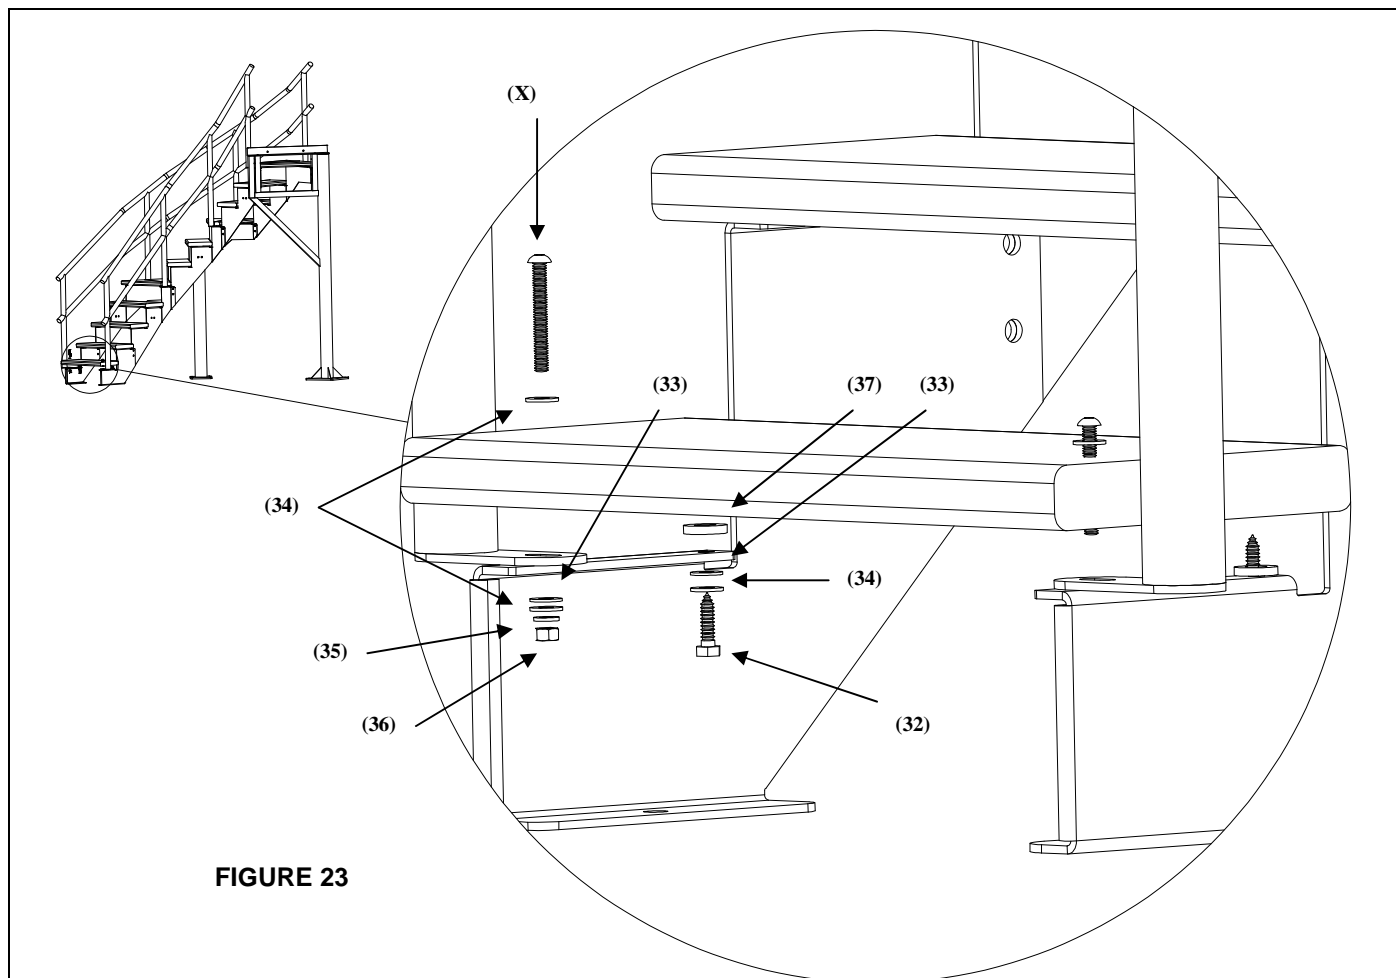

FIGURE 23
6) Install the stair treads on all steps where the handrail brackets will not be attached. The handrail brackets are installed on the following steps, starting from the bottom: 1, 5, 8, and 11. Beginning at the top, align the pre-drilled holes in the stair treads with the holes on each side of the stair brackets, as shown in Figure 23. Use the following hardware to attach the stair treads to the brackets: 5/16" x 1.25" Hex Head Lag Screw (32), 5/16" Flat Washer (34), and a 5/16" Nylon Washer (33).
For the treads where a handrail bracket is attached, you will also need to add a 3/16" Spacer (37) between the bracket and the step as shown in Figure 23. You will need to assemble the handrails to the stairs before assembling the rest of the stair treads.